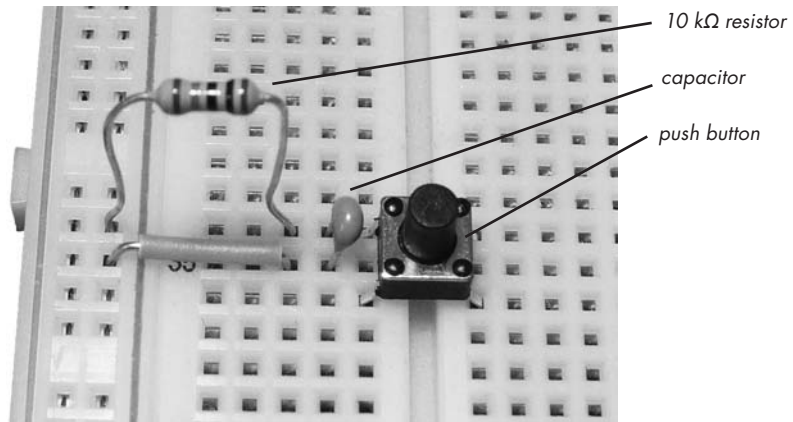

Figure 4-21: 10 kΩ resistor, capacitor, and push button
2. Turn the breadboard 90 degrees counterclockwise and insert the 10 kΩ resistor, a short link wire, and the capacitor, as shown in Figure 4-21.